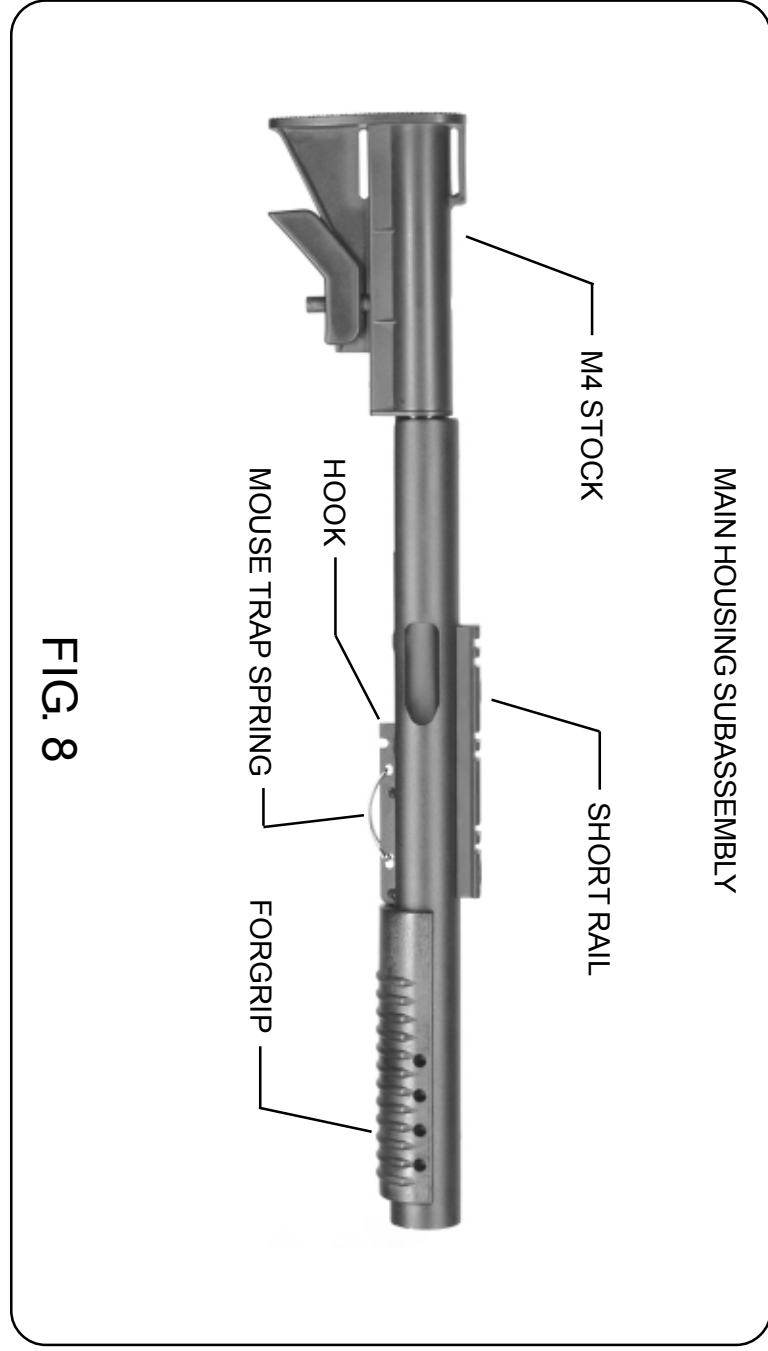

FIG. 8
- Main Housing subassembly (Fig.8)
The main housing subassembly should be obvious and consists of the tubular housing with the short sight rail on top and the black plastic foregrip at the front. Also included in this subassembly is the rubber recoil absorber, foregrip and whatever stock happens to be installed (FIG.8) The rubber components are glued in place using a cyanocrylate adhesive. The foregrip simply slides off the housing. Note: your unit may have one of several rail systems installed and of course will differ from the photos.